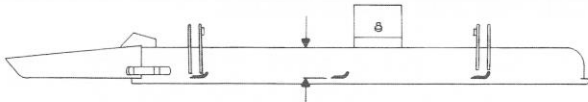

Figure 26
2. Rotate blade until the ends face forward and backward (Fig. 26). Measure from inside of cutting unit to cutting edge at front of blade (Fig. 26), and remember this dimension.